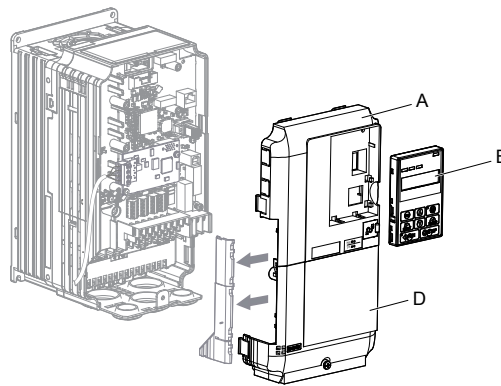

Figure 5.10 Replace the Front Covers and Digital Operator
*1 Refer to Figure 5.10 for examples of the different wire routing techniques.